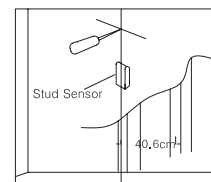
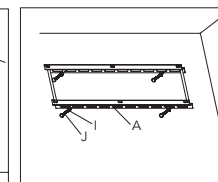

fig. 2.1
fig. 2.2
The wall plate (A) must be anchored to the two wood studs at a distance over 30.5cm (12"). Use a high quality wood stud finder, to locate two adjacent studs. We suggest using an awl, or thin nails, to confirm the location of the wood stud (as shown in fig. 2.1). Use the 7mm (5/16") drill bit and drill 88mm (3 1/2") deep holes in each of wood stud's. Then use four 9mm (3/8") square head screw bolts (J) and four metal pads (I) and install the wall plate to the wall, please make sure the installation direction of the wall plate is correct (as shown in fig. 2.2).